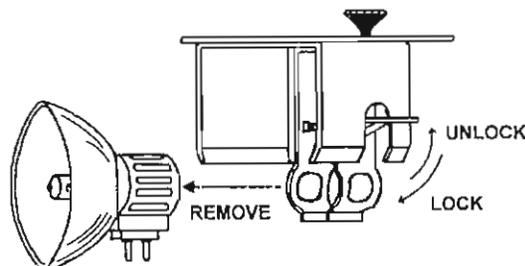

Figure 3-6. Removing the lamp cartridge.
- (6) Grasp the circular vented housing of the lamp cartridge and pull it outward to remove it from the assembly as illustrated in figure 3-6. Discard the lamp cartridge.